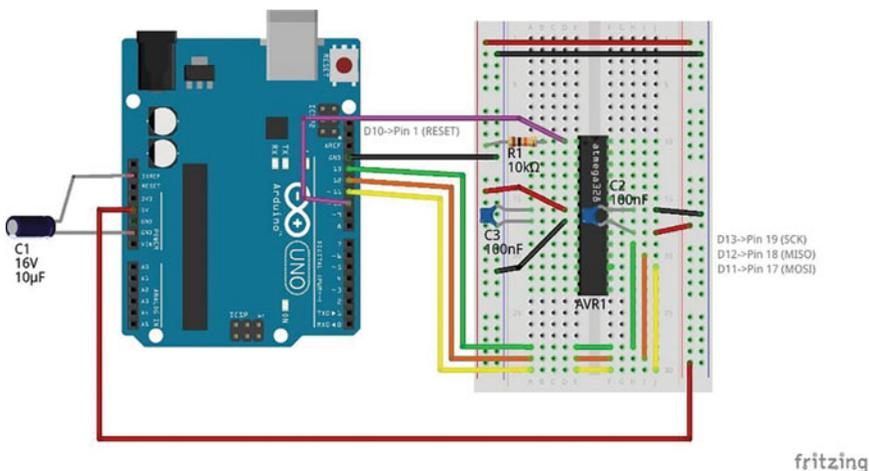

Figure I-1 ArduinoISP
- Connect the breadboarded ATmega328P to your Arduino as detailed in Figure I-1 and in the text.
Figure I-1 shows how the connections should look. Only the bare essential components are installed on the breadboard; this is just to burn the bootloader, nothing else. Capacitors C2 and C3 are optional, but extra power supply filtering isn't a bad thing! Capacitor C1 may be required if your ArduinoISP ends up being reprogrammed instead of the breadboard ATmega328P. With regard to C1, the documentation says